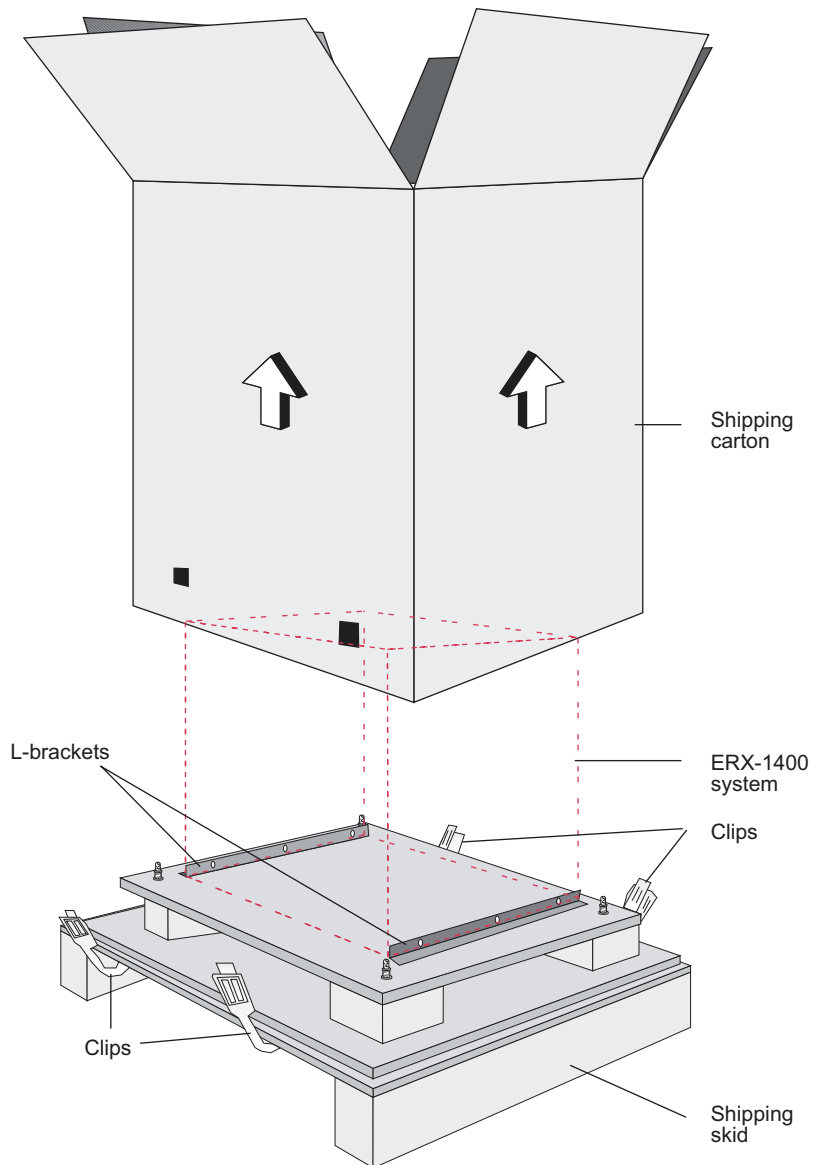

Figure 2-2 Lifting the carton off an ERX-1400 series
- 5** Lift the carton off the router. See Figure 2-2.